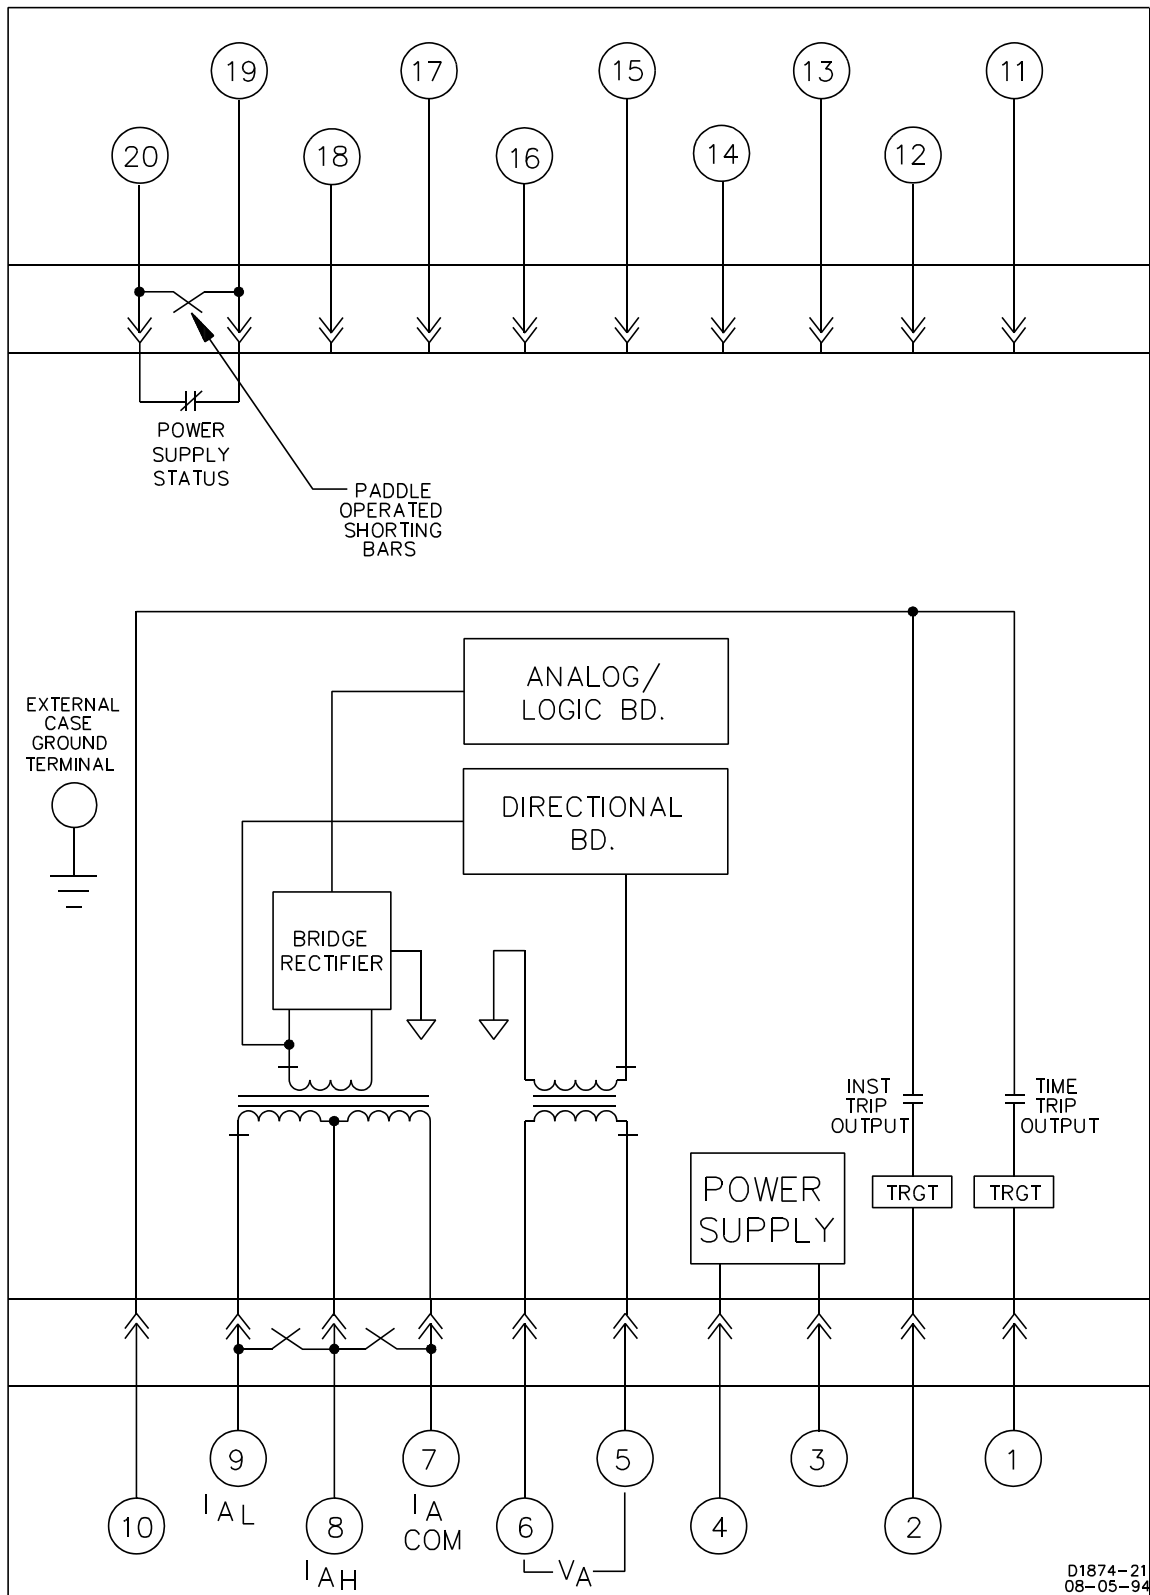

Figure 4-10. BE1-67 Single-Phase, Internal Connection Diagram
- Internal connections are shown in Figures 4-10 and 4-11.